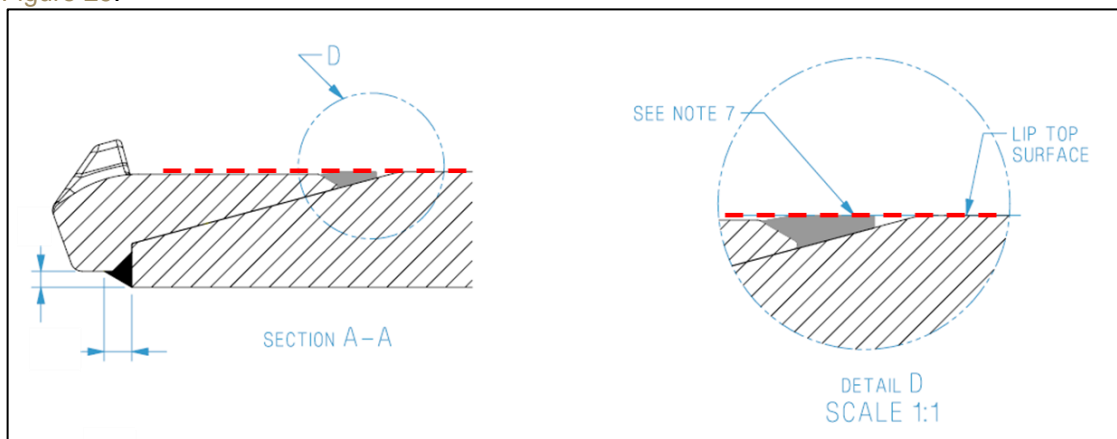

Figure 29 Excerpts from BU00037748 Page 2
- 2.15.5. After all fillet welds have been completed, clean welds by following weld procedure PWP0001. Grind back any excess weld and smooth transitions between the weld passes. Grind off the extension weld top to Lip Top surface as shown in Weld information drawing BU00037748. Refer Figure 29.